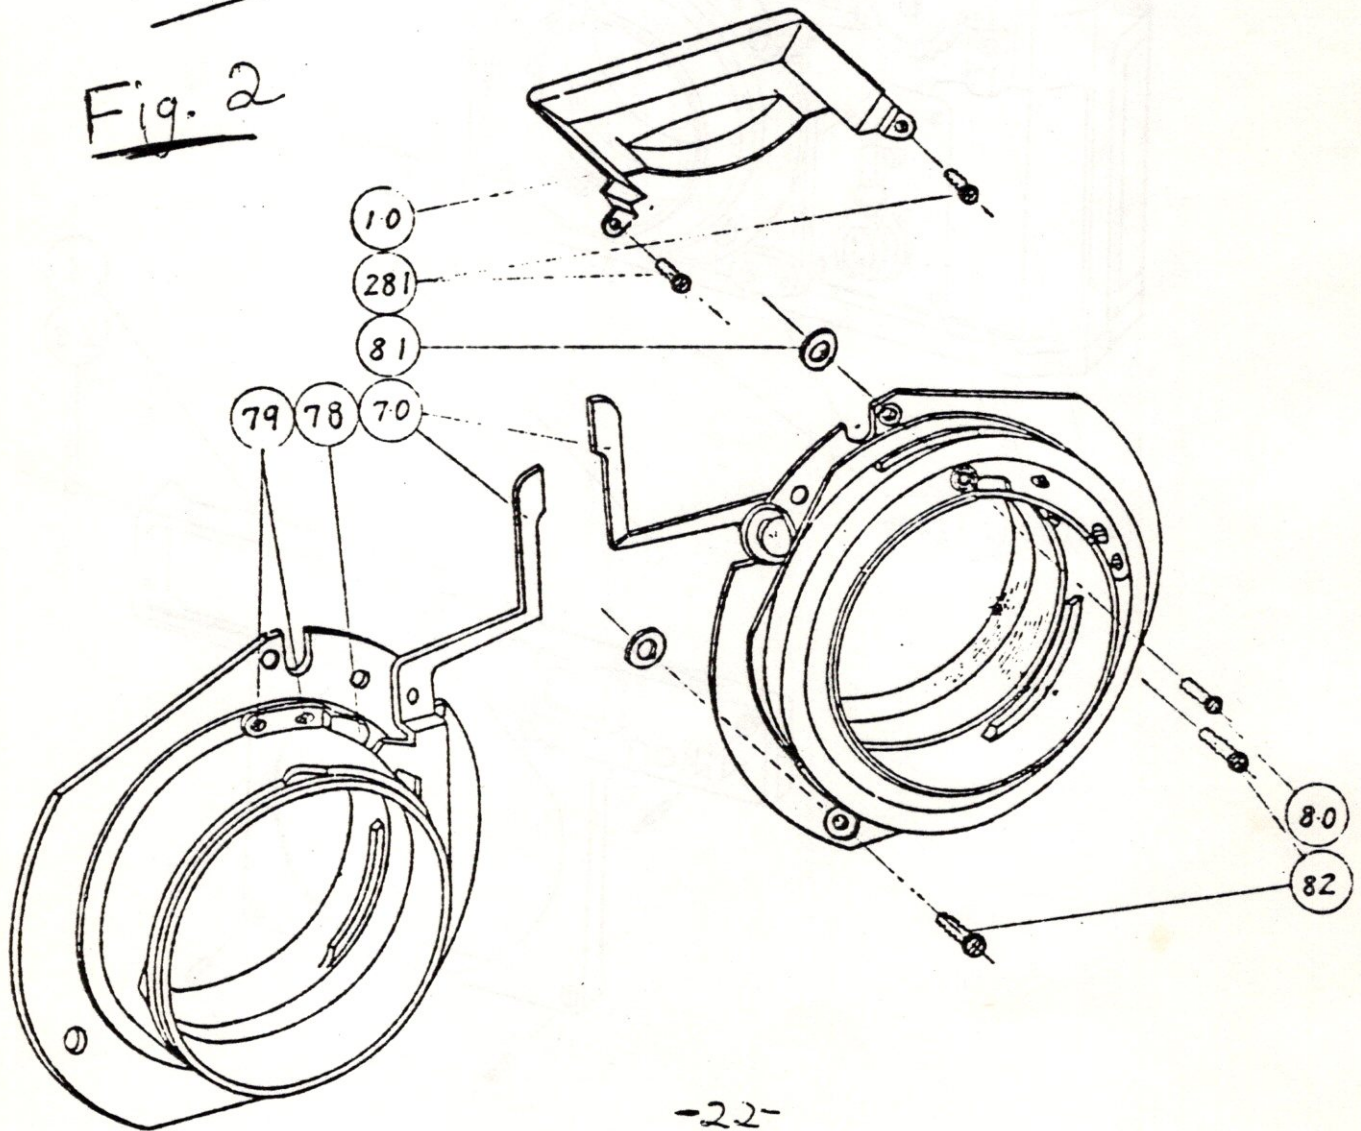

Fig 3
(2) Side terminal to be connected to flash gun cord
- b. Remove the rewinding base No. 555 (Fig. 3)